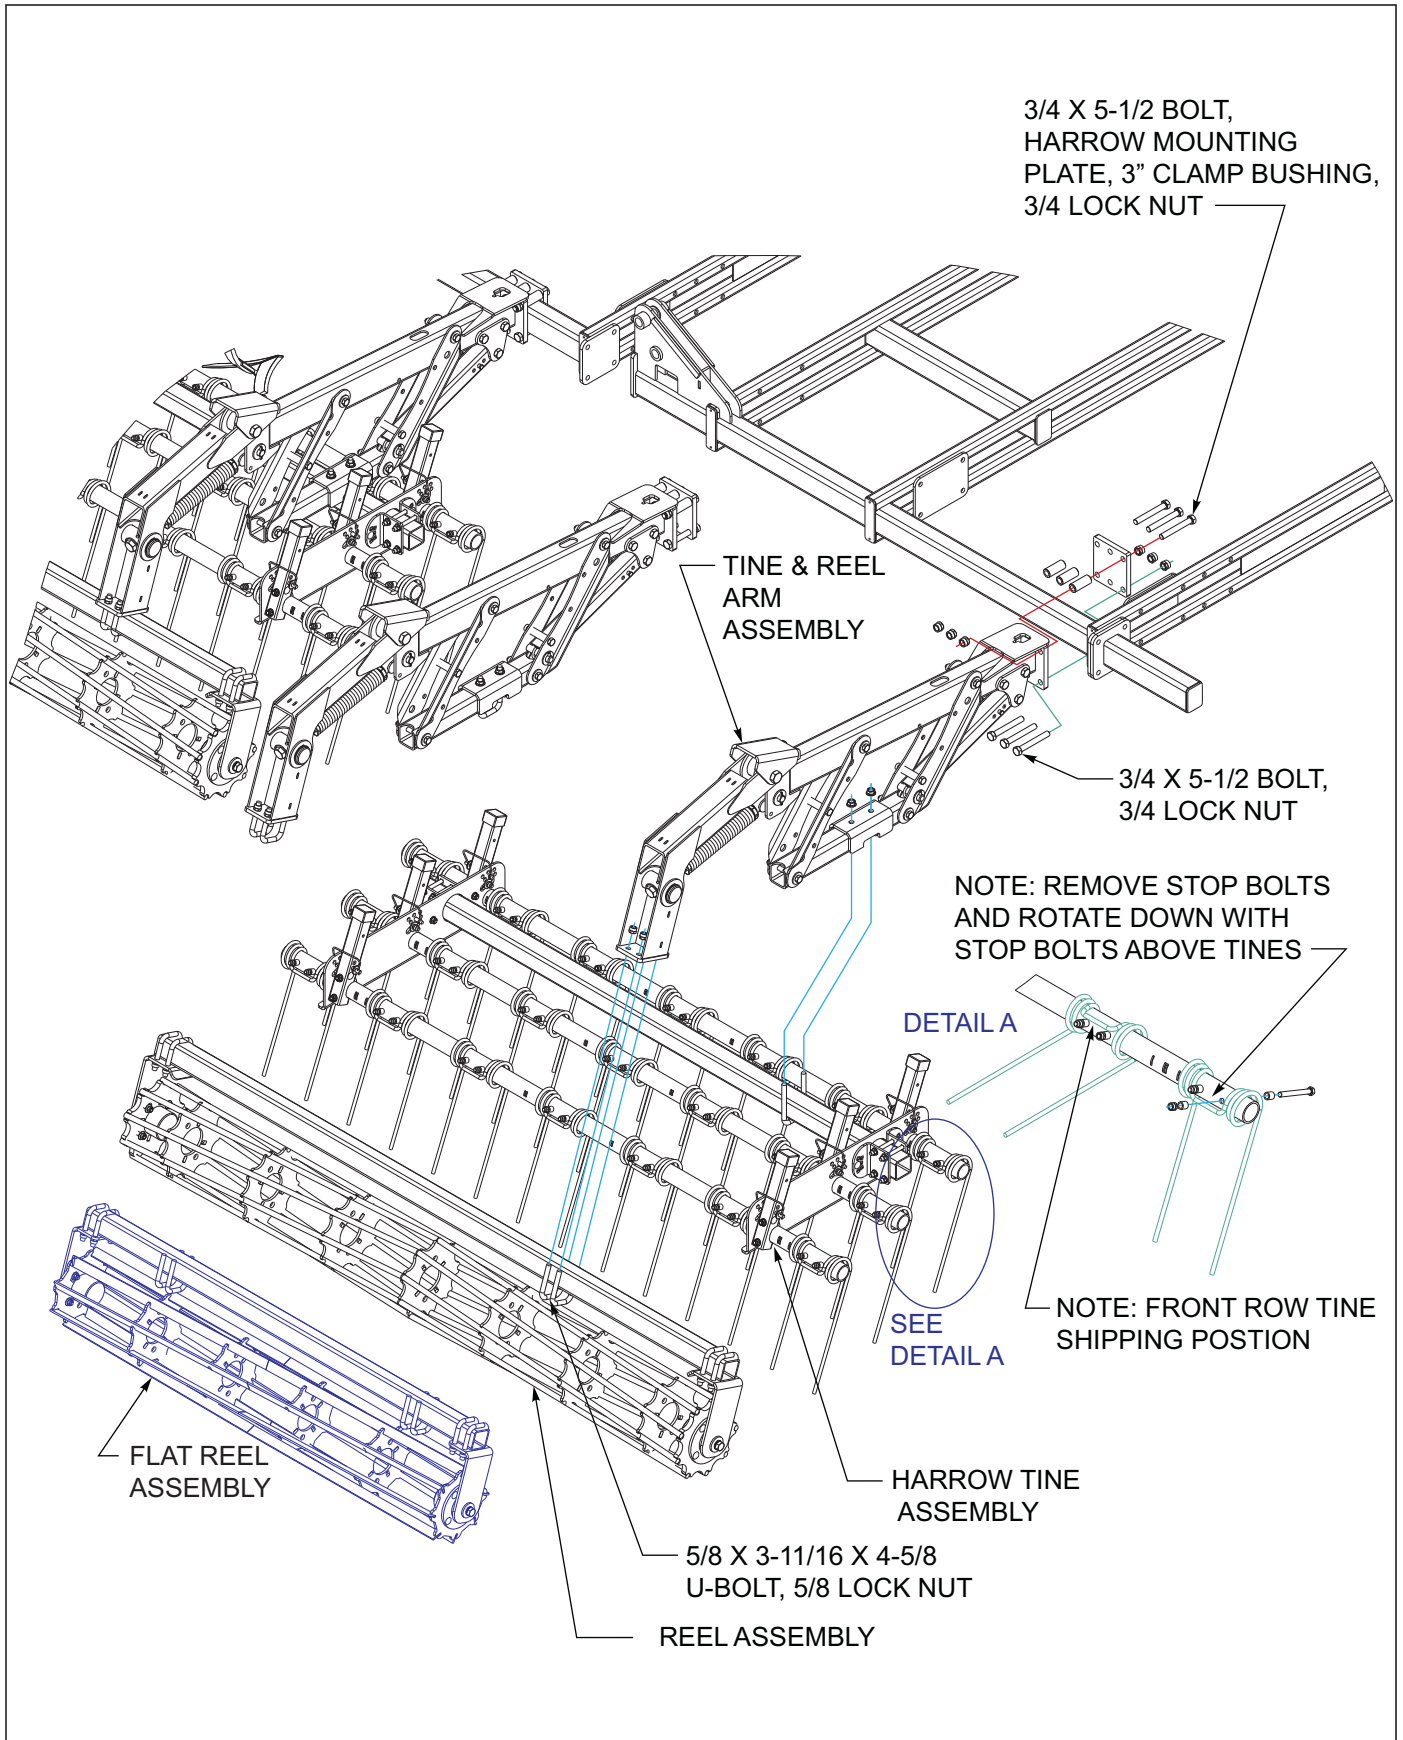

Figure 3-30: 3 Row Coil Tine and Reel Harrow Installation
1. Attach the tine/reel arm assemblies to the rear tube of the center and wing frames using harrow mounting plates, 3/4 x 5-1/2 bolts, clamp bushings and 3/4 lock nuts *See Figures 3-30*. Clamp bushings are installed on the top mounting bolts.